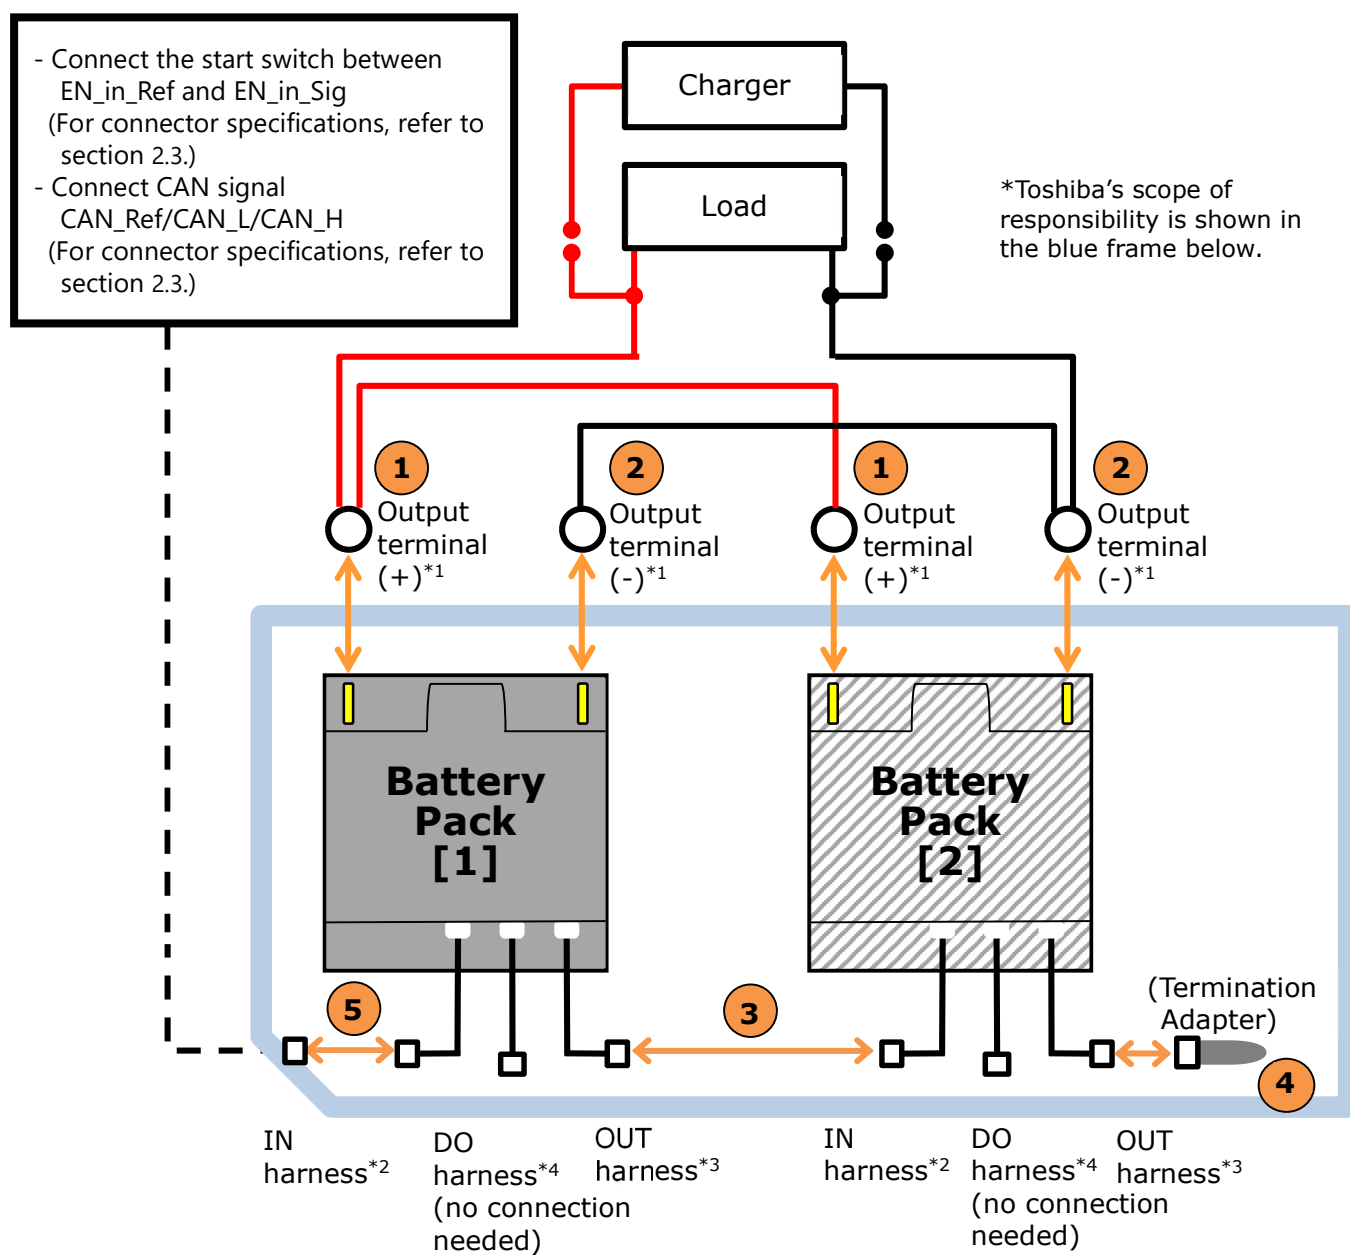

Figure 6-6 Connection Configuration with Only CAN Communication
Please connect each device from ① to ⑤ in order as shown in Figure 6-6.